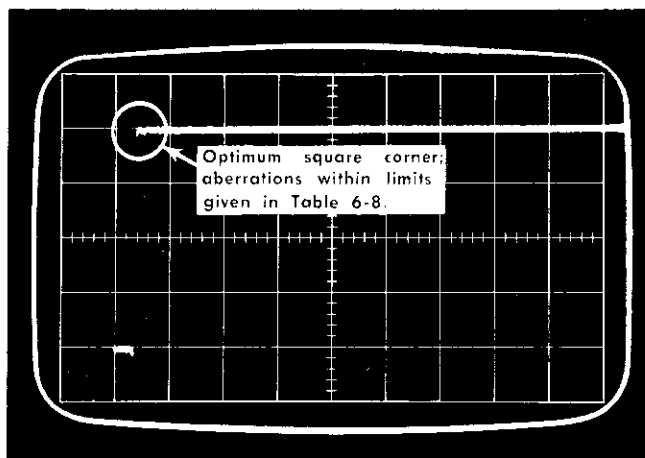
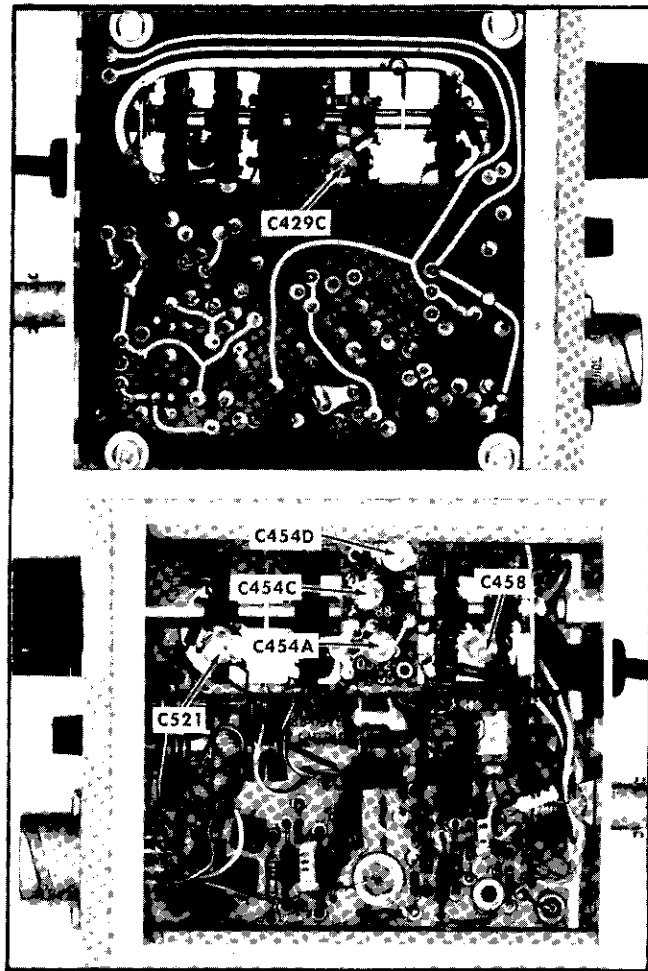

Fig. 6-27. Transient response waveform, step 6.
Fig. 6-28. Transient response adjustment locations.
e. Set the Oscilloscope TIME/DIV to .1 μ s and adjust the triggering and position controls as necessary to provide a presentation as in Fig. 6-27.
f. CHECK and ADJUST—Transient response of a 4 division square wave at each setting of the mVOLTS/DIV switch in the sequence listed in Table 6-8. Optimum squareness should exist at the upper left corner of the square wave. Use Fig. 6-27 as a reference. Adjustment locations are shown in Fig. 6-28.